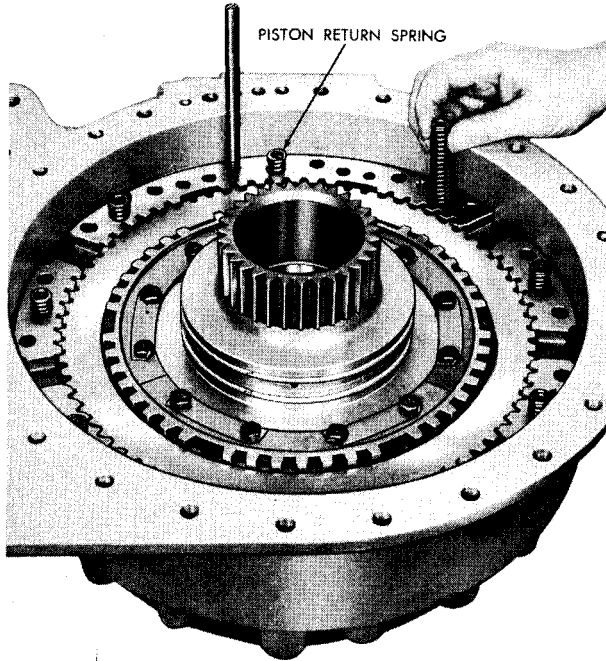

Figure 168. Installing steer clutch piston return springs
n. Install nine steer clutch piston return springs (fig. 168).